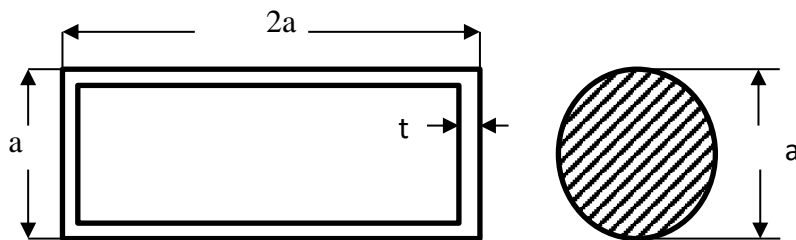

Fig. 4
- 13 a) Why closed sections are having better torsional rigidity than open sections, briefly explain? (4)
- b) Find an expression for the maximum shear stress induced in an elliptical bar under torsion? (6)
- 14 a) A thin walled box section  $2a \times a \times t$  is to be compared with a solid circular section having diameter 'a' shown below in Fig.4. Find the thickness 't' so that both sections have: - (8)